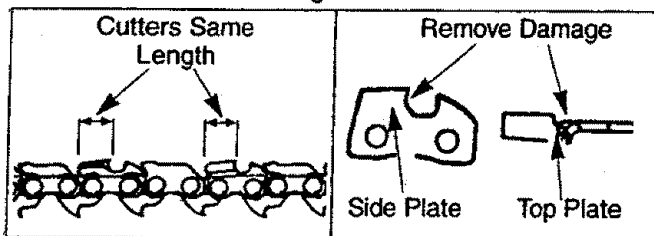

Figure 26
- Keep all cutters the same length when filing. See Figure 26.
- File enough to remove any damage to cutting edges (side plate and top plate) of cutter. See Figure 26.